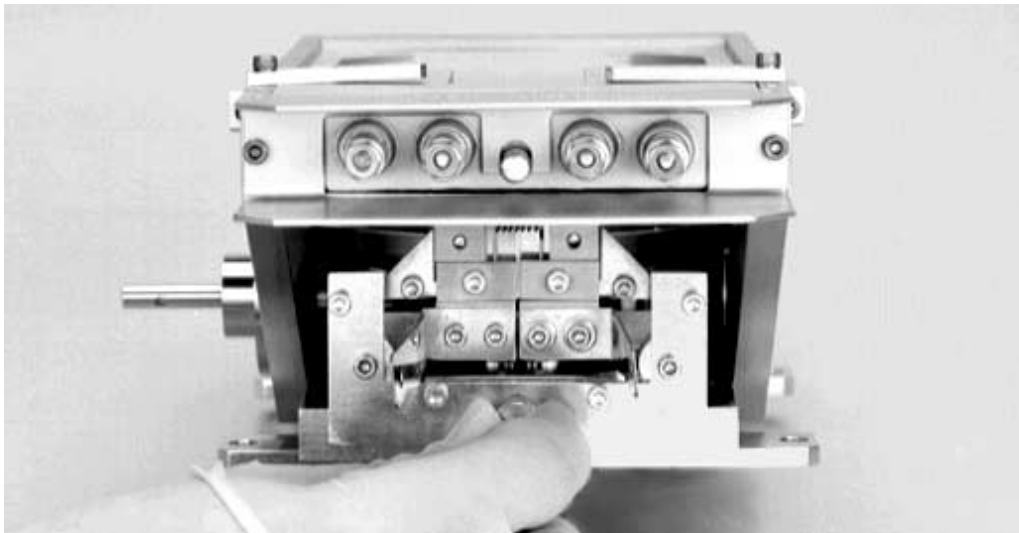

Figure 6-7. Removing the emitter assembly
Step 6: Remove the emitter assembly, if you have not already done so. First remove the knurled nut that secures the emitter to the source's baseplate, as shown in Figure 6-7. Then pull the emitter straight out from the source.